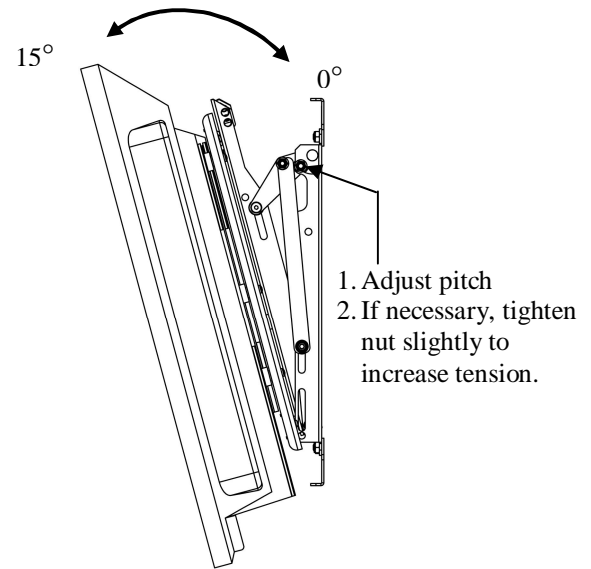
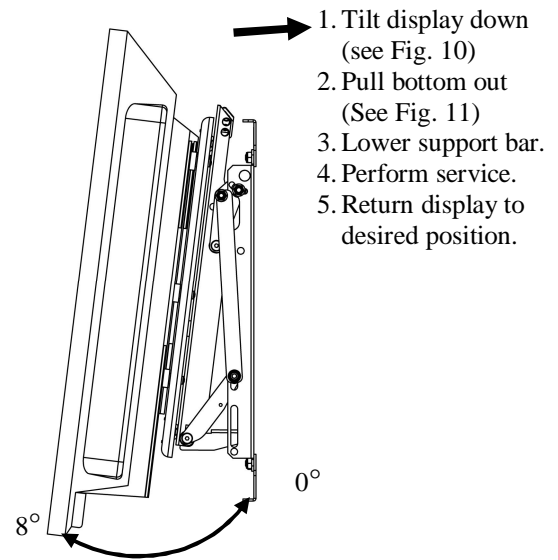

Figure 10. Tilt Display Down
Figure 11. Tilt Display Up (for service only)
2. If desired, tighten the nut (see Figure 10) to increase the amount of tension needed to hold the mount in the position set in Step 1.
1. Manually tilt display down slightly (see Figure 10), and then pull bottom of display out (see Figure 11).